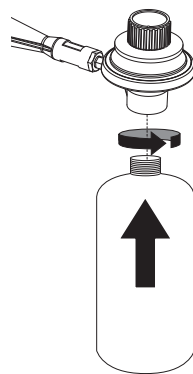

Figure 4
2. Rotate LP gas tank counterclockwise until it is loose. (Figure 4)
If your unit was assembled for you, visually check the connection between the burner and regulator/control knob. (Figure 4)